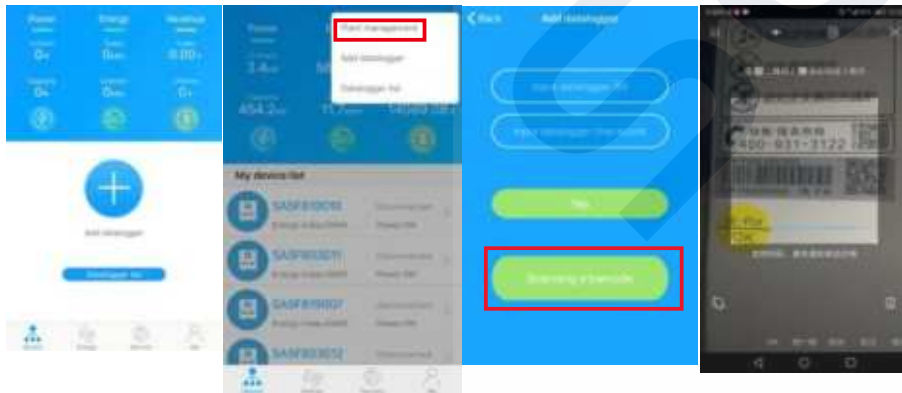

Fig 8.7
- Way: Click "+" in the upper right corner of the device page and select "Add Collector (WiFi/GPRS, etc.)", as shown in Figure 8.7.